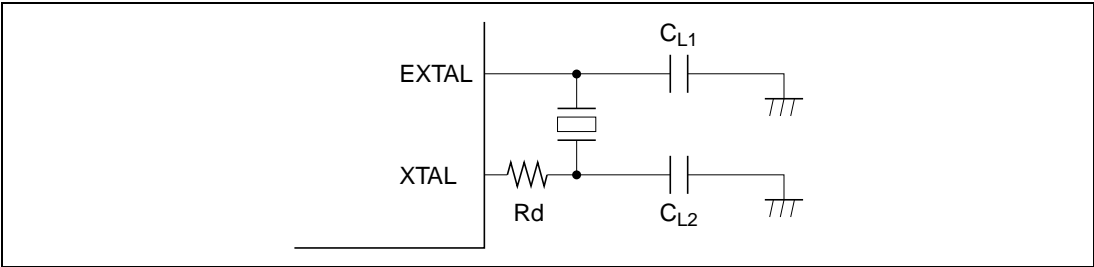

Figure 19.2 Connection of Crystal Resonator (Example)
Circuit Configuration: A crystal resonator can be connected as in the example in figure 19.2. Damping resistance R_d should be selected according to table 19.1 (1), and external capacitances C_{L1} and C_{L2} according to table 19.1 (2). An AT-cut parallel-resonance crystal should be used.